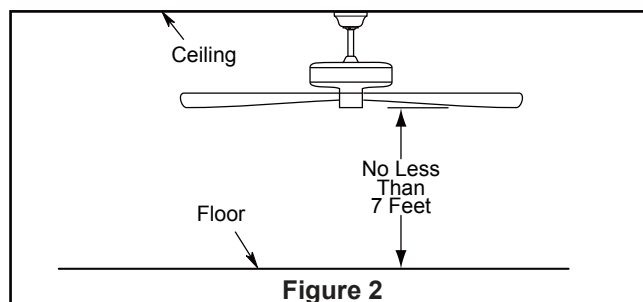
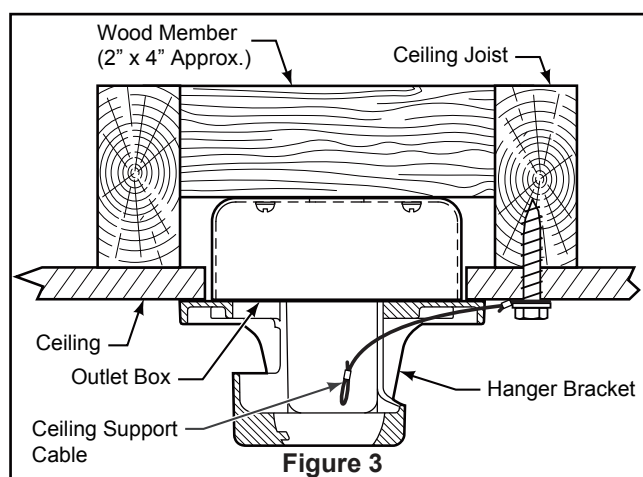

Figure 2
Figure 3
Your new ceiling fan will require a grounded electrical supply line of 120 volts AC, 60 HZ, 15 Amp Circuit. Electrical code requires use of a fan-rated outlet box to support the extra weight and motion associated with a ceiling fan. A fan-rated box will be labeled as such and typically supports up to a 70lbs ceiling fan. Fan-Rated Outlet Boxes vary in ratings and design. Ensure the ratings of your ceiling fan outlet box meet the requirements for the ceiling fan being installed. Figure 1, Figure 2 and Figure 3 depicts different structural configurations that may be used for mounting the outlet box.
Deep box (Figure 2)
Deep box with brace (Figure 3)
2. Remove the two preassembled screws of the downrod support from the motor assembly then retain the screws for How to Assemble Your Ceiling Fan, Step 4. (Figure 2)
3. Remove the six preassembled screws of the motor coupler washer from the motor assembly, then retain the screws for Step 7. (Figure 3)
2. Remove the hairpin clip and clevis pin from the bottom of the downrod. Retain the pin and clip for reinstallation in Step 4. (Figure 2)
3. Route the black, white and blue wires and safety cable through the downrod. (Figure 3)
The fan must be hung with at least 7' of clearance from floor to blades. (Figure 2)
1. Securely attach the hanger bracket to the outlet box using the outlet box screws and washers supplied with the outlet box. (Figure 3)
2. Drill a 1/4" pilot hole into the building structure to prevent splitting or cracking with installation of the lag bolt. Using the 3/8" x 2" lag bolt and flat washer, attach safety cable to ceiling joist or wood structural member. The lag bolt will pass through the flat washer, safety cable loop, and into the building structure. (Figure 3) **NOTE:** Ceiling support cable cannot be secured to outlet box only, it must be directly secured to ceiling joist or structural member using the 3/8" x 2" lag bolt and flat washer. (Figure 3)
To avoid possible electrical shock, be sure electricity is turned off at the main fuse box before wiring. (Figure 2)
2. Slide the receiver into the hanger bracket before wiring as shown in figure 3.
2. Securely attach and tighten the canopy screw cover over the shoulder screws in the hanger bracket utilizing the key slot twist-lock feature. (Figure 2)
2. Remove one of the three screws in the light plate assembly and retain the screw for later. Slightly loosen the remaining two screws. Connect the 2 single pin connectors from the LED assembly to the 2 single pin connectors from motor assembly. (Figure 2)
- 3.** Assemble the LED assembly to the light plate assembly using the two key slots and replace the third screw and securely tighten all three screws. (Figure 3)
- 2.** Restore electrical power to the outlet box by turning the electricity on at the main fuse box. (Figure 2)
- 3.** To make fan operational, install 23A/12V battery (included) in hand-held remote transmitter, with fan power off. Then follow the remote code setting process. (If not used for long periods of time, remove battery to prevent damage to transmitter). Store the remote away from excessive heat or humidity. (Figure 3)